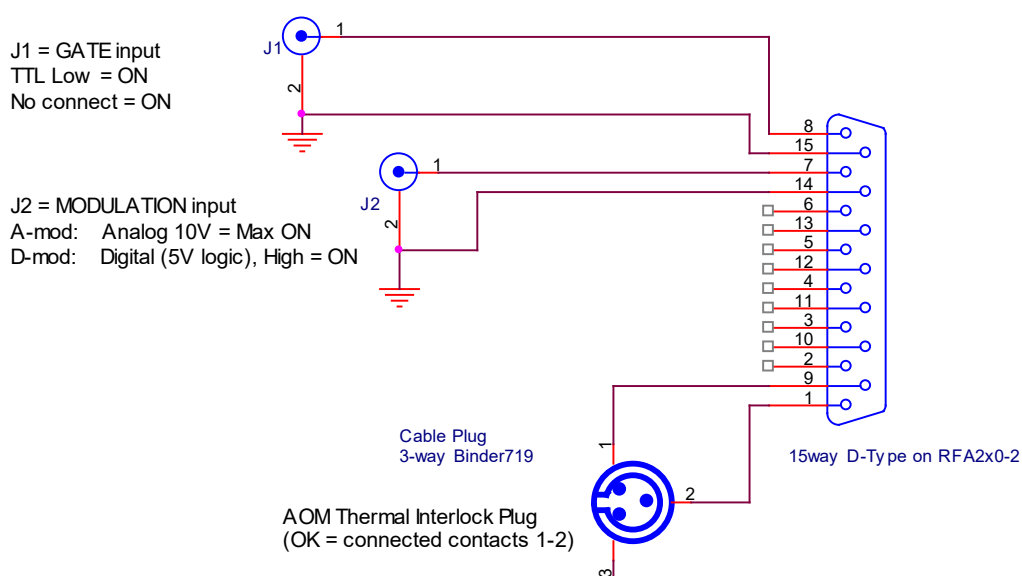

Figure 3: Connections
Refer to Figures 3,4,5. Use of a Corrosion inhibitor is strongly advised.
- 3.4 Connect the Interlock of the acousto-optic modulator (Binder 719 3-pin snap connector) to the enable inputs on the 15-pin D-type connector of the RFAxx0-2. Connect pin 1 of 15wD-type to the pin 2 and pin 9 of 15wD-type to the pin 1. (See Figure 3)